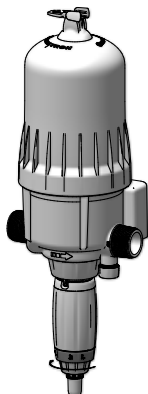

Fig. 14
- Unscrew the dosing locking nut (**Fig. 14**)